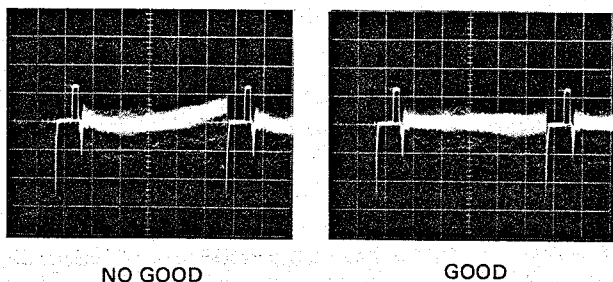

Fig. 6-4-30
(1) B signal horizontal shading adjustment
- Adjust B-H:SAW VR205 and B-H.PARA VR204 to make the waveform as flat as possible.(Fig.6-4-30)